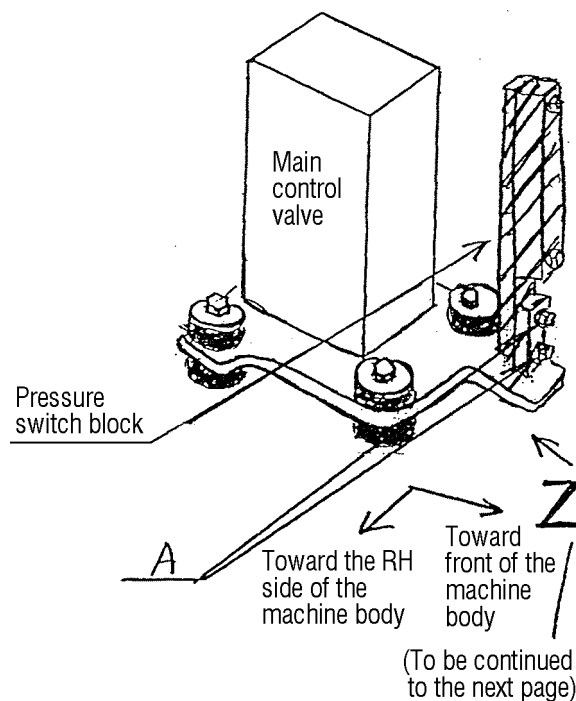

Fig. 2
- 2) Disconnect all the PPC hoses (coupler type) connected to the pressure switch located beside the main control valve shown in Fig. 2. (Refer to "Section 5.1" on page 17 regarding the procedures to disconnect them.) After that, remove the bolts "A" to separate the pressure switch block.